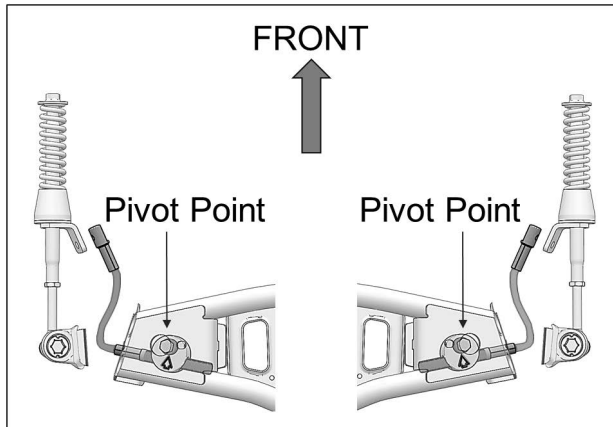

Fig. 36
19. Make sure aluminum disk pivot point is installed in front of steering limiter cable. See Fig. 36